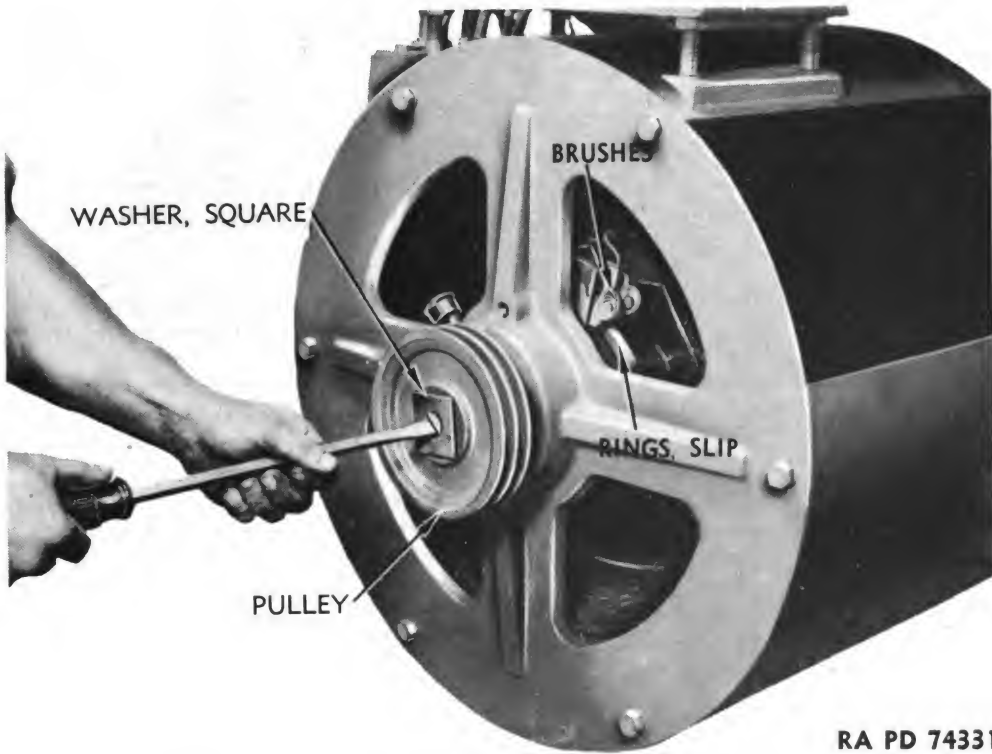

Figure 177 — Removing Alternator Shaft and Screw
(2) Lift springs from commutator brushes, and remove brushes from holders. Loosen screws holding leads, and remove leads. Loosen lock nut on stud securing brush-holder assemblies to bearing bracket, and remove stud with brush holders in place.
(3) Clip off edges of punch holes holding square washer tight against the screw in the alternator shaft. Remove screw (fig. 177). Take off pulley (fig. 178).